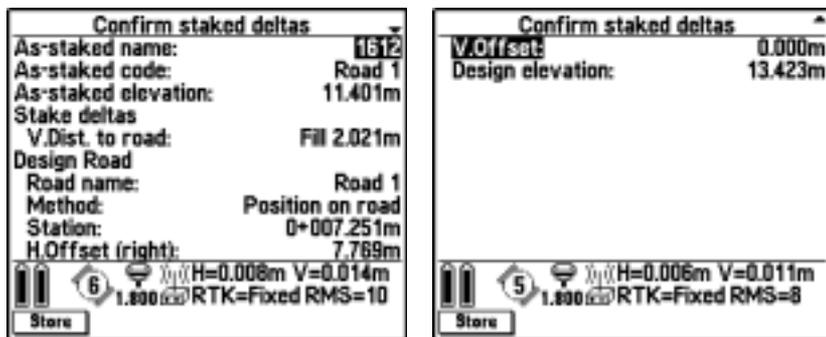

Figure 18.22 Survey screen
2. If the *View deltas before storage* field in the Stakeout settings screen is set to Yes, a screen similar to the one shown in Figure 18.22 appears.